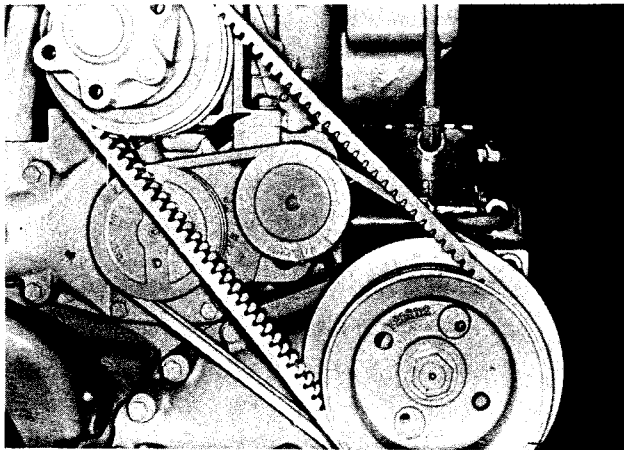

Fig. 2-5, (N11974). Water pump — with idler
1. Loosen the capscREWS and lockwashers or locknut securing the idler pulley to the bracket or water pump. Fig. 2-5.